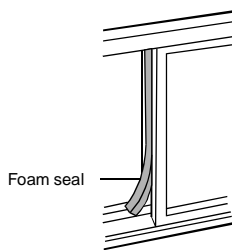

Fig. 17
5. Cut the foam seal to an appropriate length and sealing the open gap between the top window sash and outer window sash. Shown as in Fig.17.